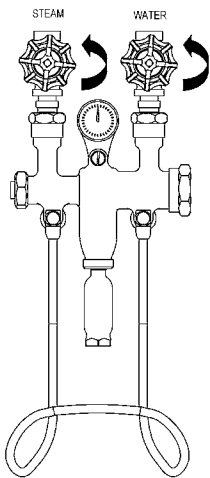

Figure 2:
2. Turn on the cold water valve, located on the right side of the unit, counter clockwise. (see Fig. 2)
3. With an adjustable wrench, turn hex nut 'D' in a clockwise direction until internal parts are fully extracted, as shown in Fig. 2.